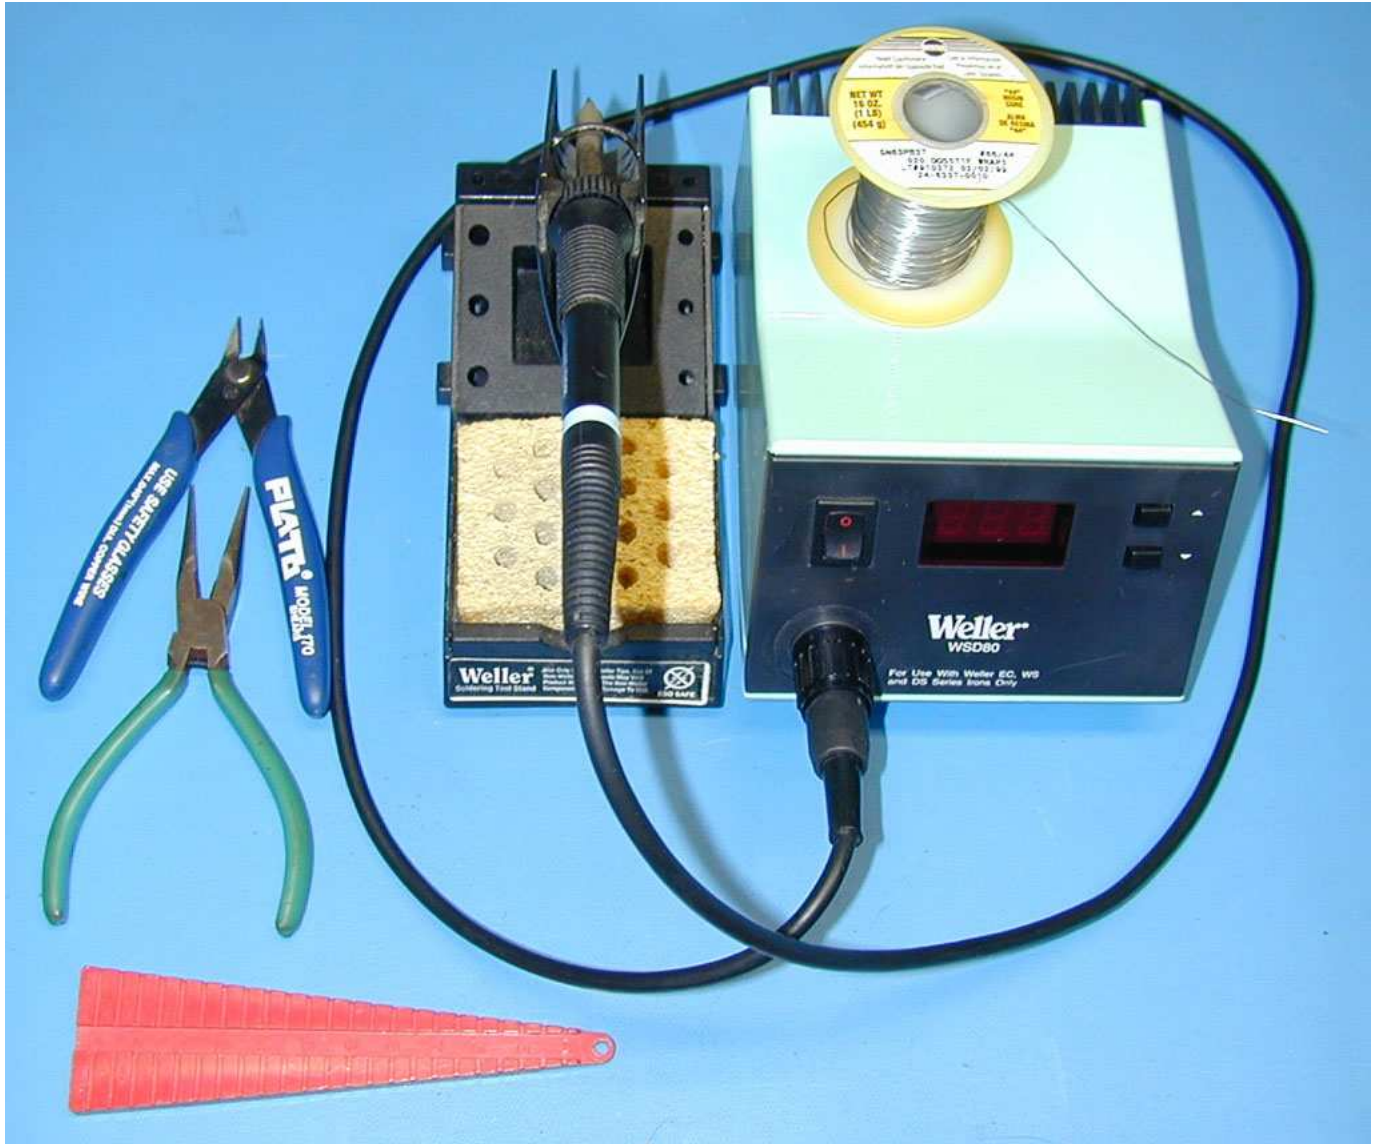
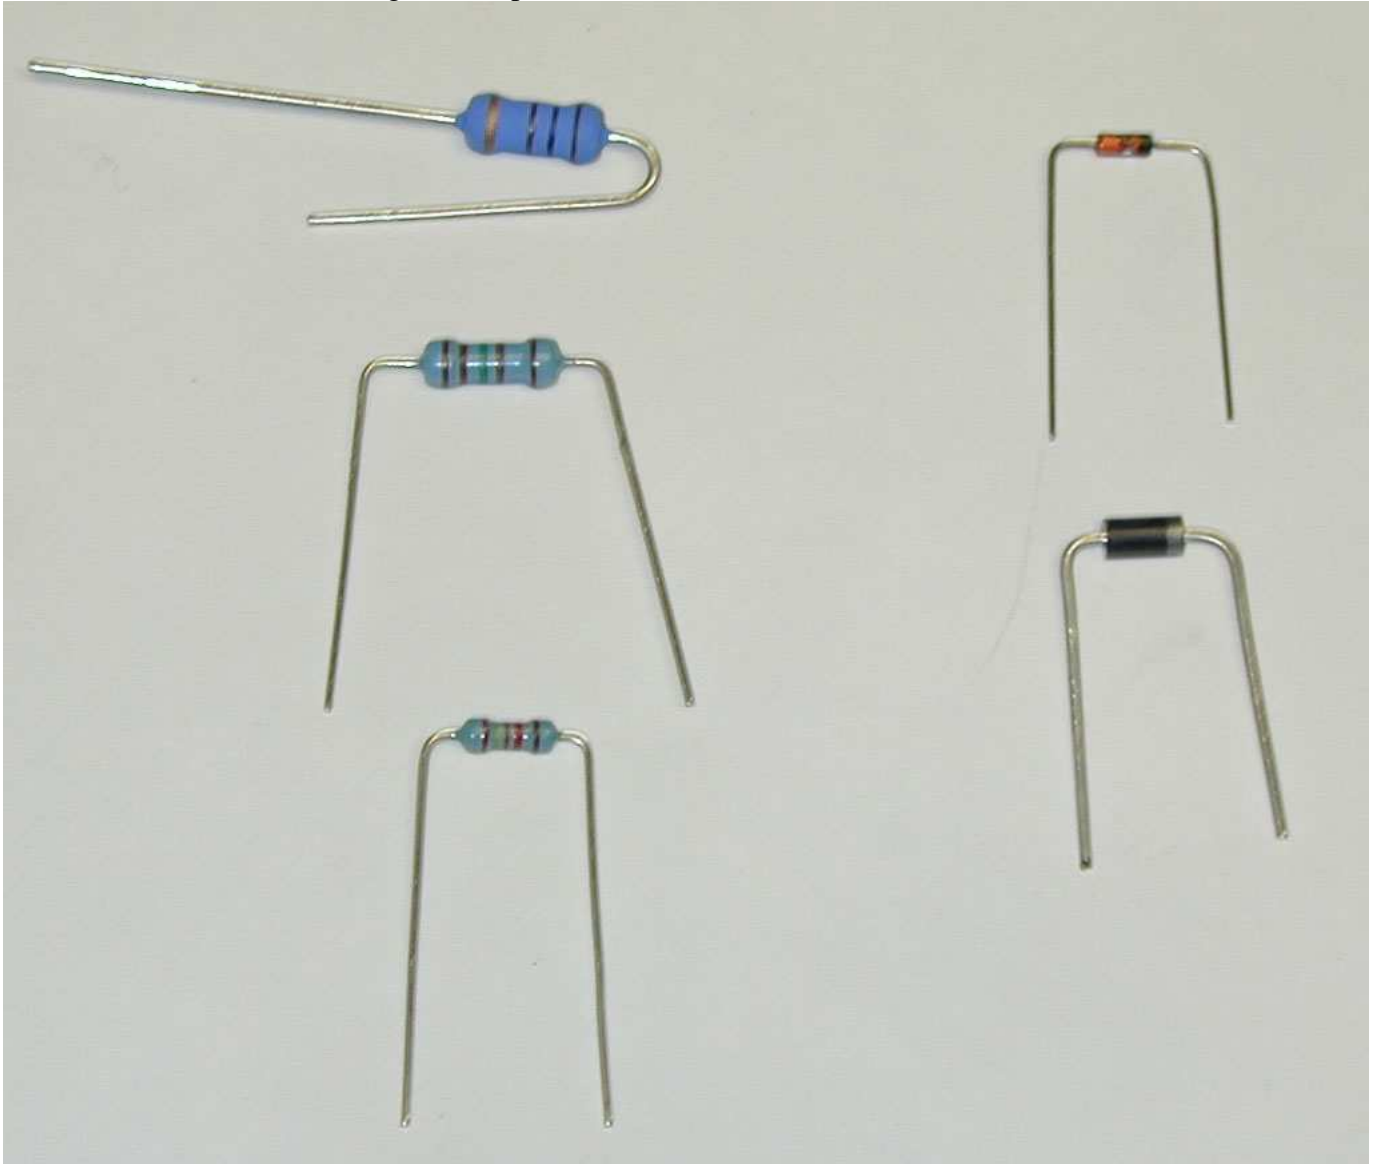

Figure 3: Tools Required
Figure 6, Lead Forming Illustration
1. Bend each 1/4W resistor to shape using the lead forming tool, use the 0.4" (10mm) hole to hole centers setting as shown in Figure 6 (bottom left).
2. Bend each 1/2W resistor (R804, 806) to shape using the lead forming tool, use the 0.6" (15mm) hole to hole centers setting as shown in Figure 6 (middle left).
3. Bend each 2W resistor (R801 - 802) to a U-shape by bending one lead over the body of the resistor as shown in Figure 6 (top left).
5. Bend each small signal diode (D701-702) (Figure 6, top right) and each Schottky rectifier (D801-806) (Figure 6, bottom right) to shape using the lead forming tool, use the 0.4" (10mm) hole to hole centers setting as shown in Figure 3.